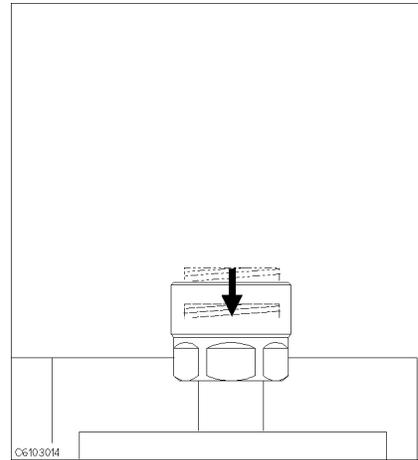

Figure 3-14.
2. Verify that the connector sleeve is retracted fully as shown in Figure 3-14.